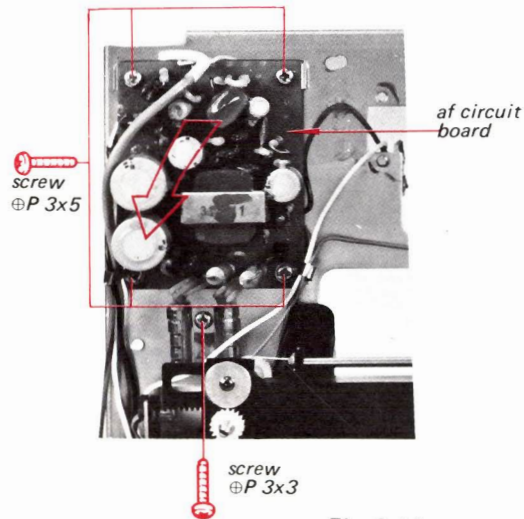

Fig. 2-14
1. Remove the five screws shown in Fig. 2-14.